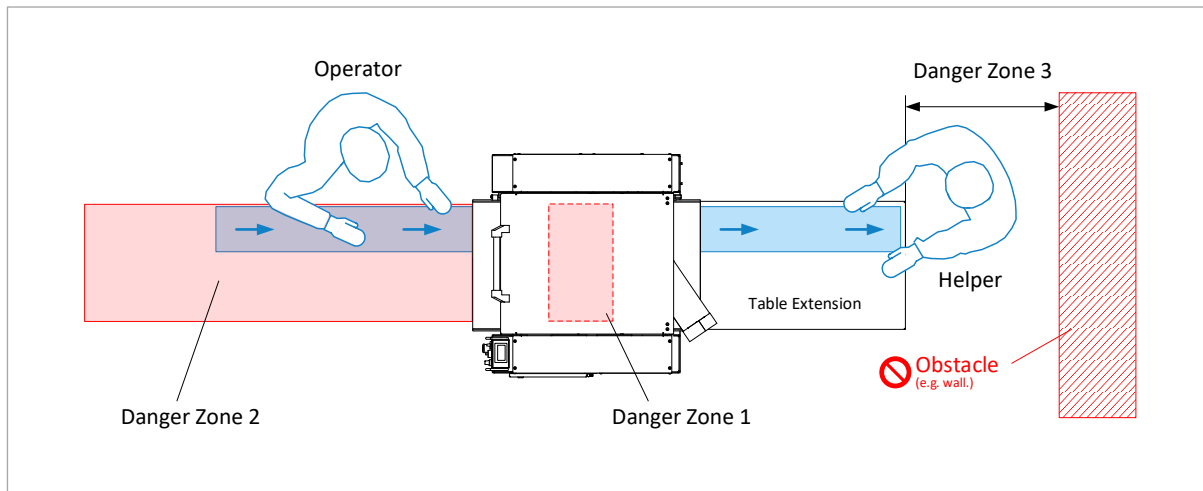

Figure 2: Danger zones during thickness planing
- The operator of the machine must generally stand on the infeed side of the machine, in the cutting direction and with his body to the side of the machine table during thickness planing. Do not enter the danger zone 2 marked in ⇒ Figure 2 while the cutter is running.